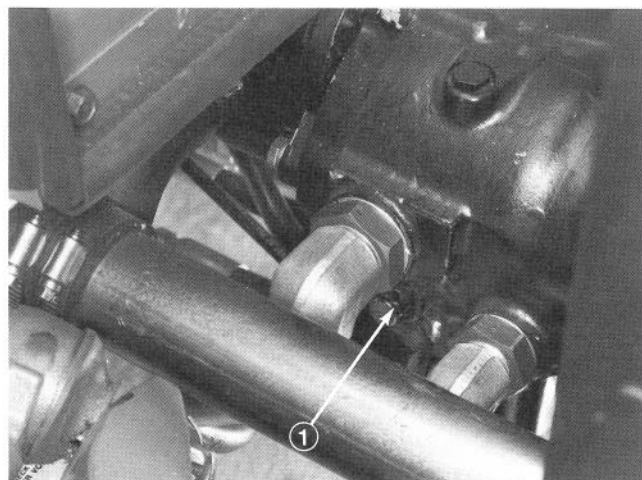

Figure 26
1. By-pass valve is located in left side of variable displacement pump (Fig. 26). Rotate the valve 1/2 to 1 turn counter-clockwise to open and allow oil to by-pass internally. Because fluid is by-passed, the machine can be moved – slowly – without damaging the transmission.